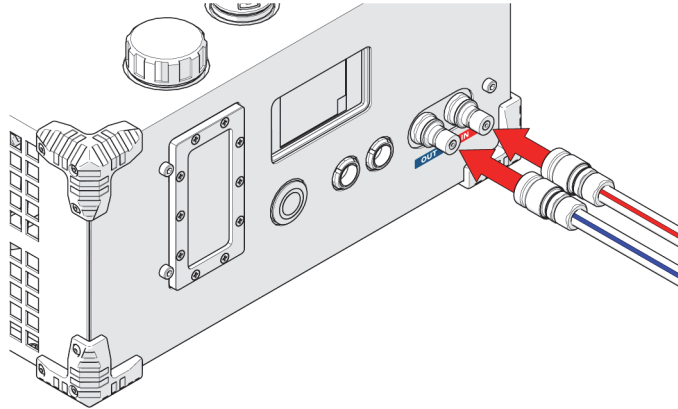

Figure 2-60 Connecting the hoses on the cooler
- The red hose connects to the IN port (see Figure 2-60 on page 87).
- The blue hose connects to the OUT port (see Figure 2-60 on page 87).